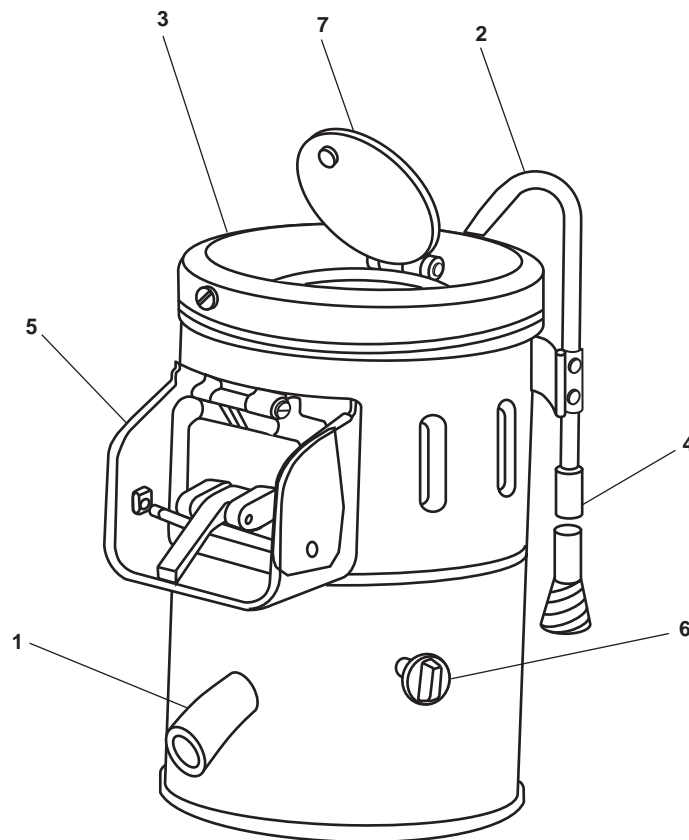

Figure 13. Peeler
- c. Turn the peeler so that the water and the peelings will discharge through the drain outlet (figure 13, item 1) into the sink.
- d. Place the water inlet tube (figure 13, item 2) into position. Water must flow into the top of the peeler without obstructing the cover (figure 13, item 3).
- e. Place the small end of the flexible hose (figure 13, item 4) over the intake end of the water inlet tube (figure 13, item 2).
- f. Place the large end of the flexible hose (figure 13, item 4) over the cold water faucet.
- g. Close and latch the discharge door (figure 13, item 5).
- c. Turn the timer knob (figure 13, item 6) beyond the desired time; then turn back to the 1-minute mark.
- d. Open the lid (figure 13, item 7) and insert the vegetables.
- e. Close the lid (figure 13, item 7) to prevent splashing.
- f. Open the lid (figure 13, item 7) and inspect the vegetables.
- g. If satisfied with the peeling, place the container under the discharge door (figure 13, item 5).
- h. Unlatch the discharge door (figure 13, item 5).
- (1) Release the door latch and hold the discharge door (figure 13, item 5) partially open with the container below.
- (2) Set the timer knob (figure 13, item 6) ON and OFF for short intervals.
- (3) When the peeler is empty, turn the timer knob (figure 13, item 6) to the OFF position.
- d. Remove the flexible hose (figure 13, item 4) from the faucet and the water inlet tube (figure 13, item 2) and stow.
- e. Place the water inlet tube (figure 13, item 2) in the stowed (down) position.
- f. Latch the discharge door (figure 13, item 5).
- g. Close the lid (figure 13, item 7).